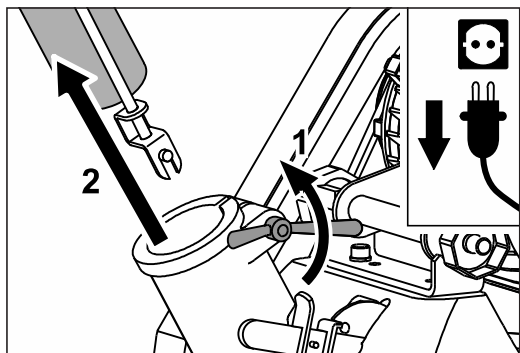

Fig. 36 Open the wing nut (1) and pull the guide tube out of the machine housing (2).
- 12 Open the wing nut at the machine housing (fig. 36, 1) and pull the guide tube out of the machine housing (fig. 36, 2).